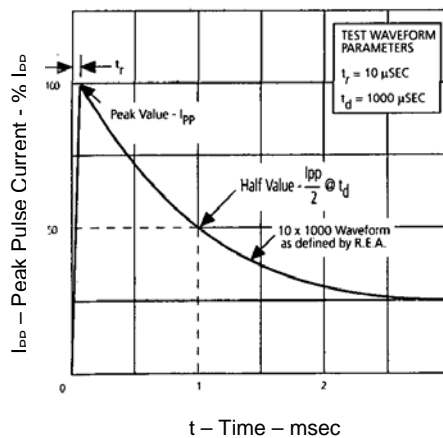

FIGURE 3
*See Figure 3. For the HSMBJSAC75, the maximum clamping voltage V_C is at the maximum rated Peak Pulse Current (I_{PP}) of 4.1 Amps.